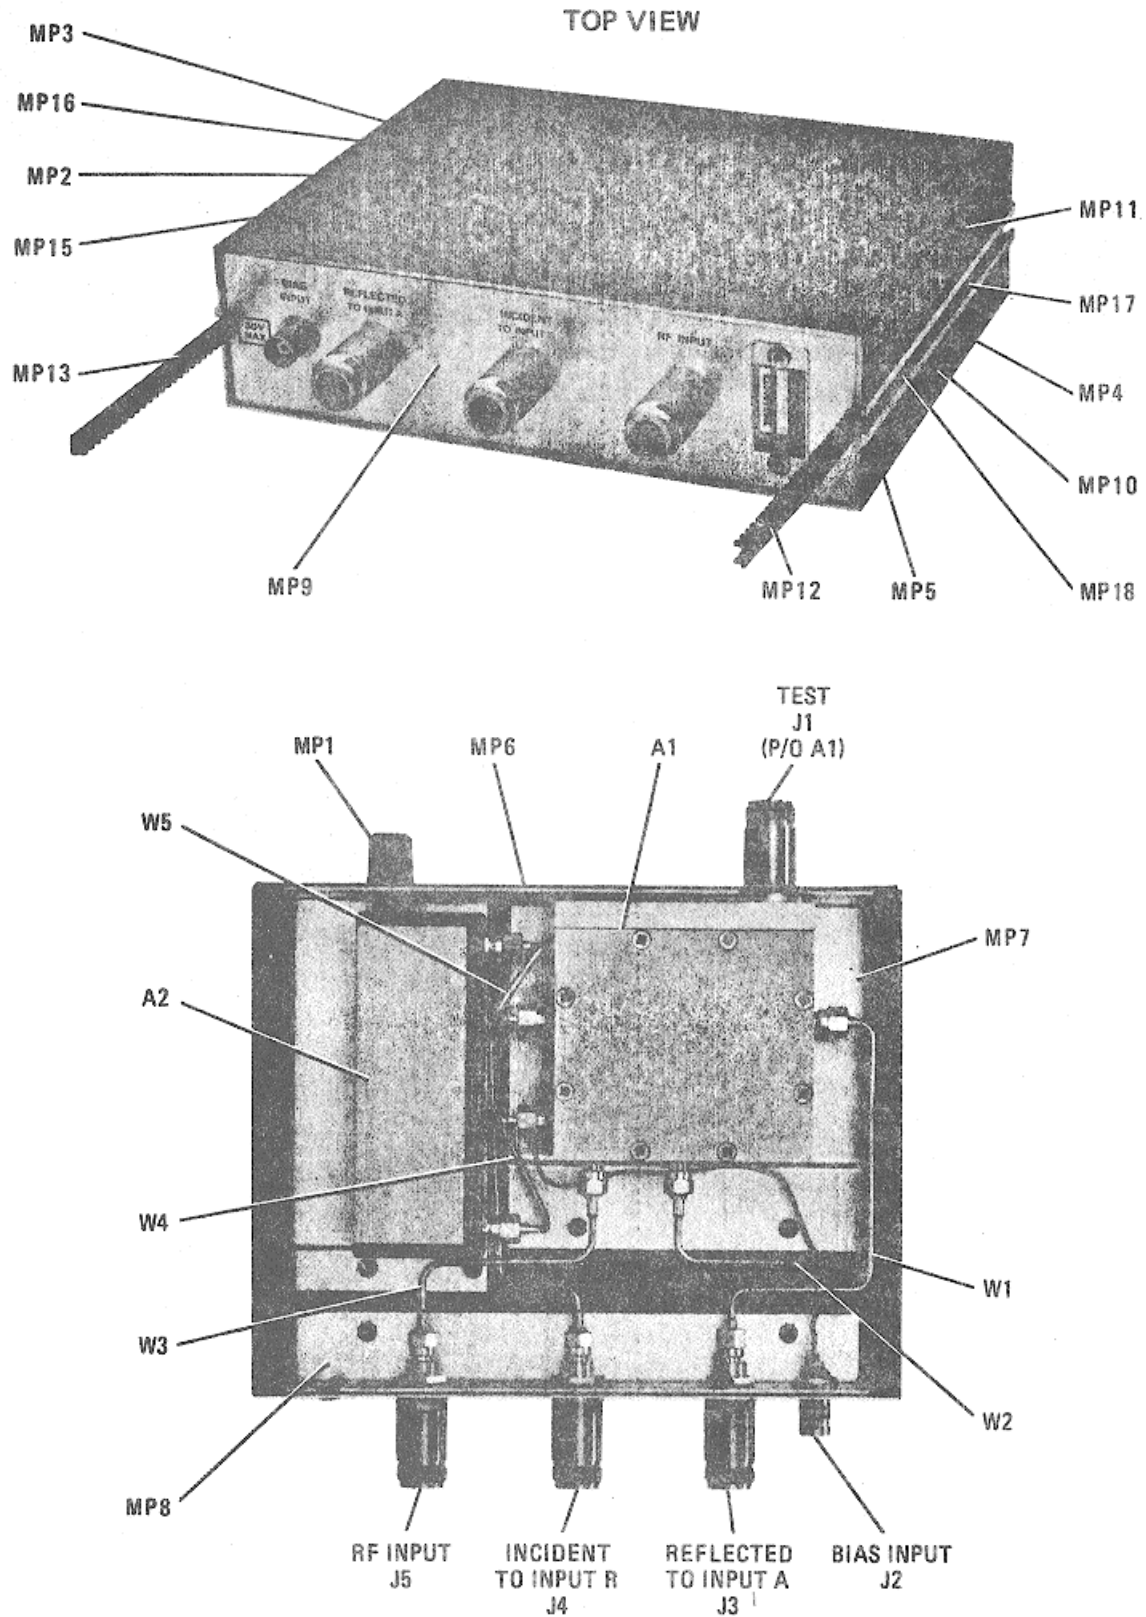
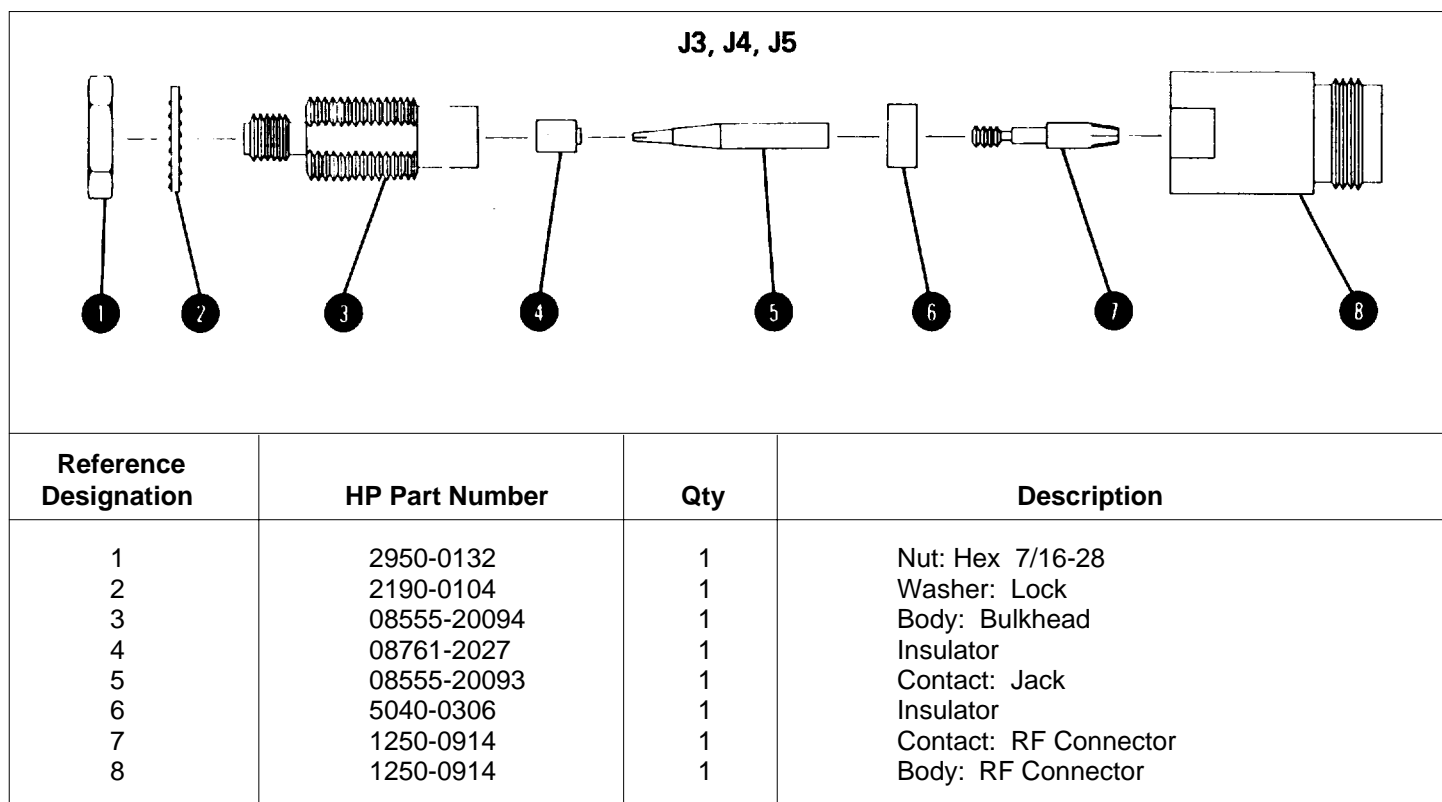

Figure 21. Major Assemblies and Parts Locations39
Figure 22. Type N Connector Assembly (08502-60001), Exploded View
h.(3), i.(2) 100 – 1300 MHz	23 dB	_____
l.(3), m.(2) 0.5 – 100 MHz	23 dB	_____
52. Replaceable parts are listed in Table 7 and identified in Figure 21. Parts of Type N Connector Assembly (J3, J4, and J5) are shown in Figure 22. 8502A attaching hardware (screws, washers, etc.) is listed and identified in Figure 23.
- d. Remove cables W1, W2, and W3 from Directional Bridge A1. (See Figure 21.) Use 5/16 open-end wrench to loosen cable connectors.